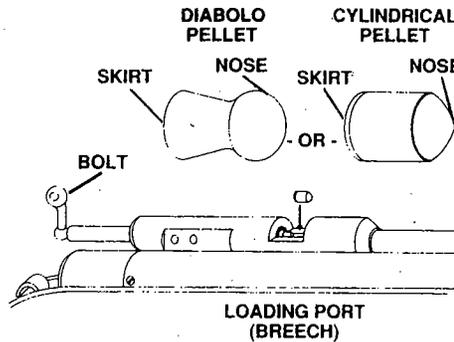

FIG. 4
- Place one pellet, nose forward, in the loading port (breech). (Fig. 4)